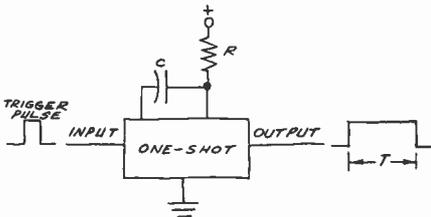

Fig. 1. Connections to a monostable multivibrator.
multivibrator is often called a "single-shot" or "one-shot." Figure 1 will help you understand the operation of a one-shot. As you can see, the one-shot requires an external capacitor and resistor to control the width (T) of the output pulse. The output pulse width is approximately R times C ($T=RC$) when R is given in megohms and C in microfarads. Thus, a 100,000-ohm resistor and a 0.01-microfarad capacitor will give an output pulse width of approximately one millisecond.